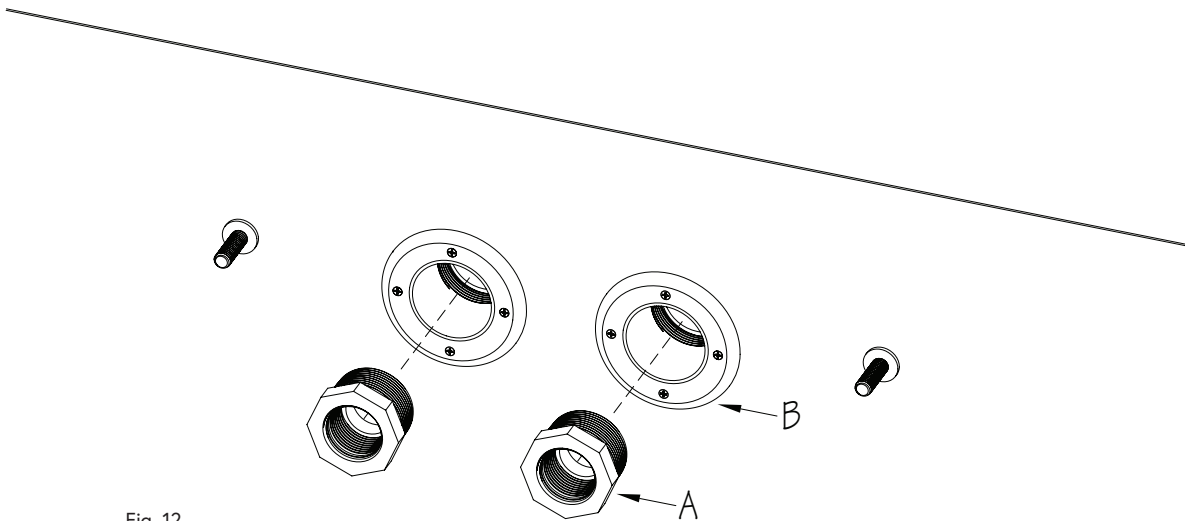

Fig. 12
11. Apply Teflon sealant to the threads of each Bushing Reducer (A) and then thread them into the Star Thru-Wall Fittings (B) (Fig. 12).